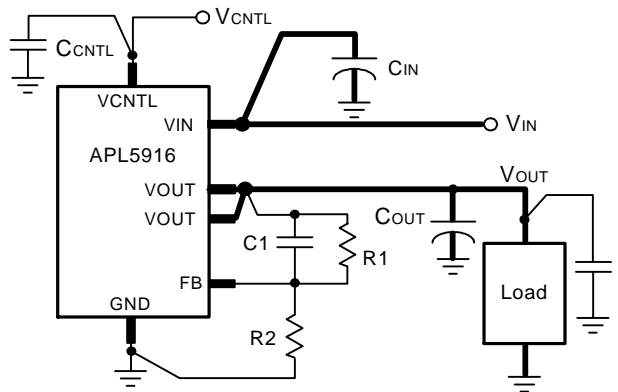

Figure 2
PCB Layout Consideration (See Figure 2)
8. See the Typical Application (see next page Figure 2)